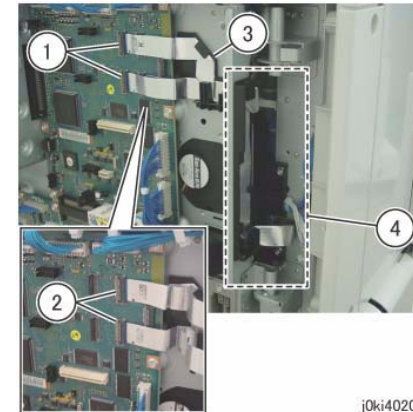

Figure 1 Disconnect the LPH Cables
5. Disconnect the LPH Cables (x4) from the MCU PWB. (Figure 1)